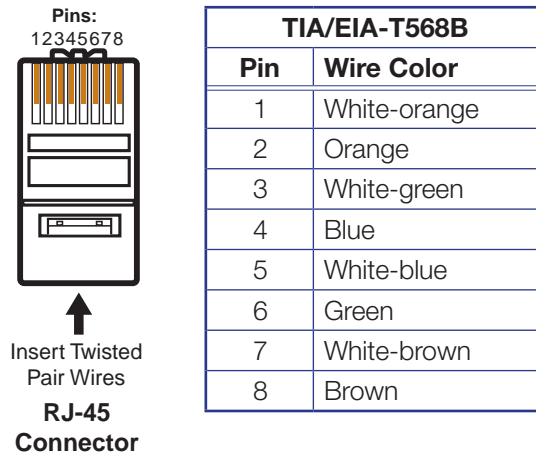

Figure 17. TP Cable Termination
- Terminate cables with shielded connectors to the TIA/EIA-T568B standard (see figure 17 on the previous page).